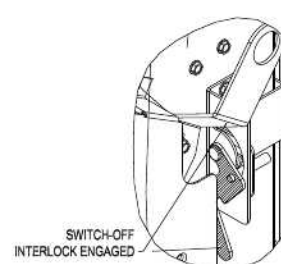

Figure 33. Interlock Engaged
11.3.7 (SLVB ONLY) Engage the busway interlock by rotating the interlock lever to the engaged position (Figure 33). Tighten the four (4) mounting screws in the support rail to a max of 24 in-lb.